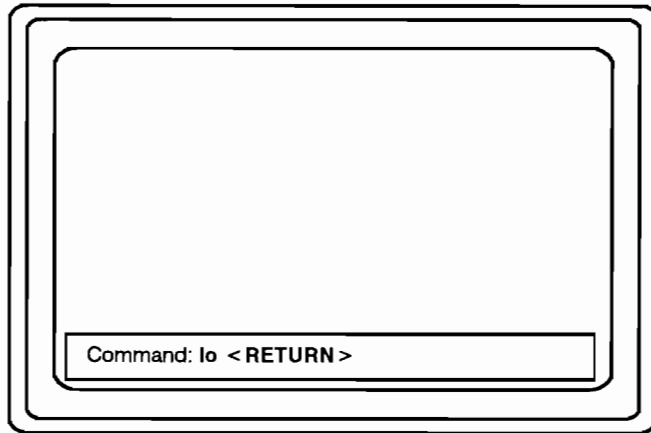

Figure 2-7. Logging Out
To log out, press **<CMD>** and type **lo** as shown in Figure 2-7.
1. Log out of the system by pressing `<CMD>` and entering the `lo` command as shown in Figure 2-7.